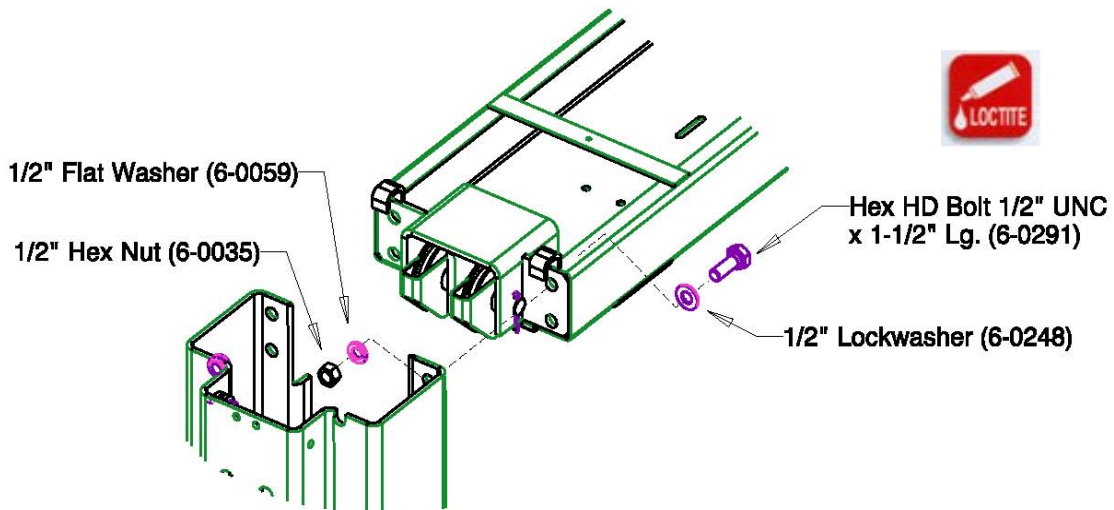

Figure 6 – Crossmember Assembly
4. Using a stepladder, install the crossmember using eight (8) 1/2"-16UNC x 1 1/2" lg. hex head bolts, eight (8) 1/2" ID lock washers, eight (8) 1/2" hex nuts and eight (8) 1/2" flat washers. See Figure 6.